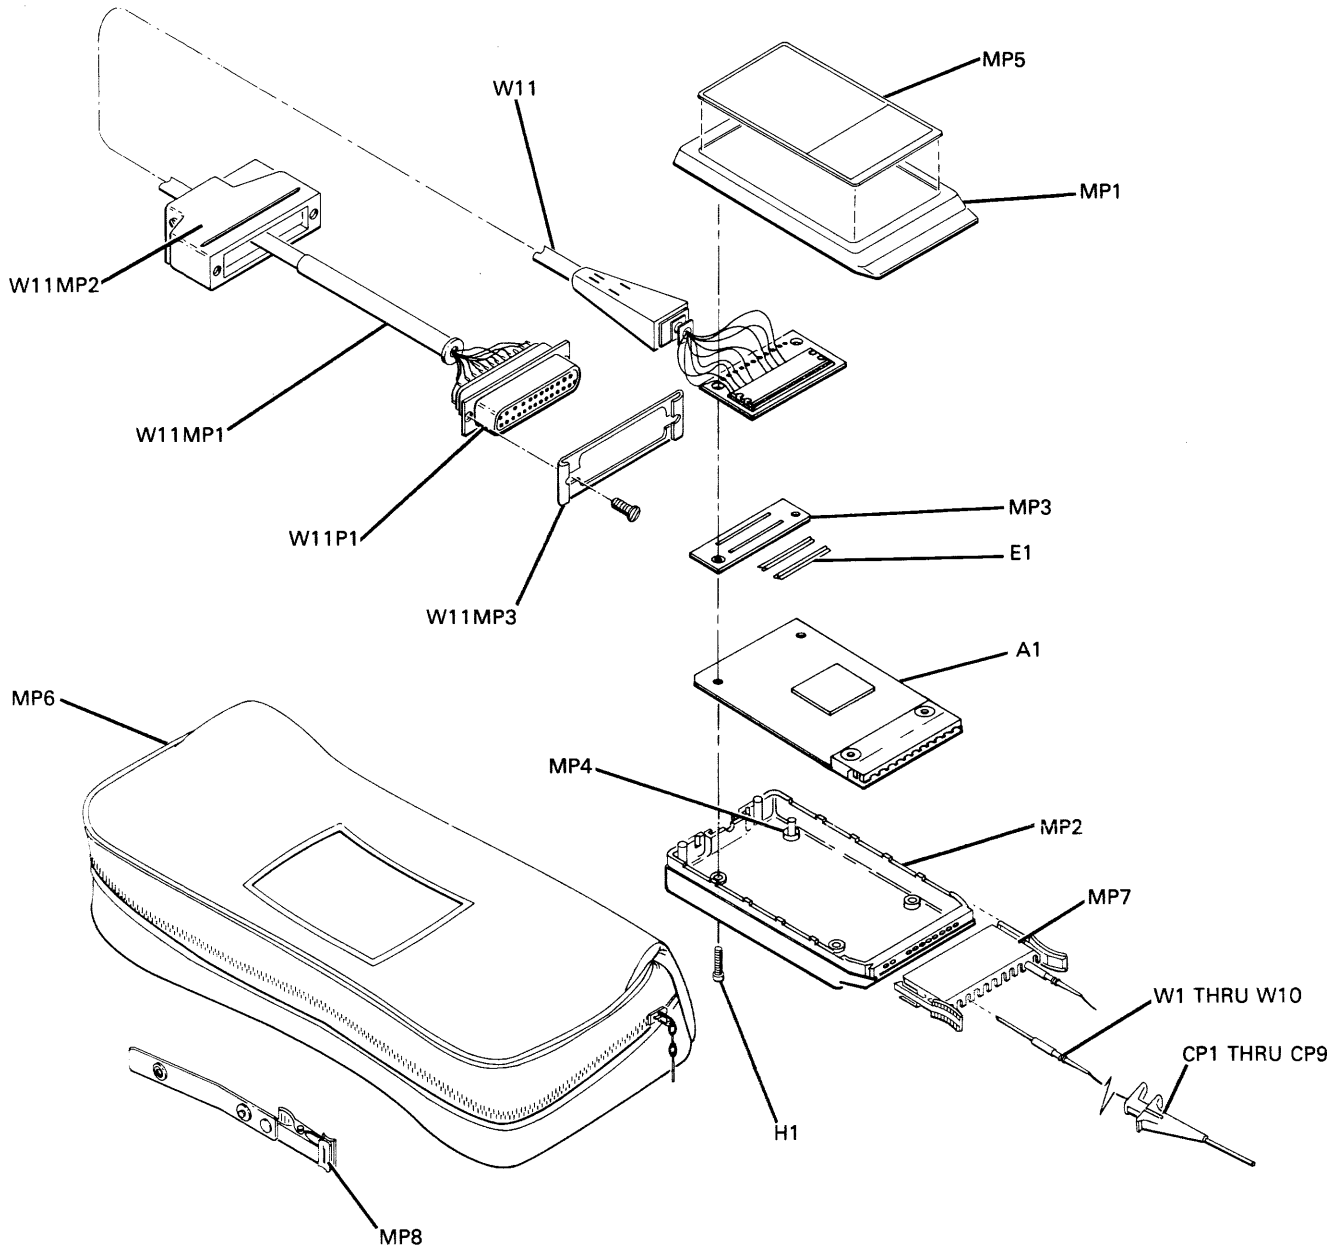

Figure 2. Model 10248C Parts Identification
19. **REPLACEABLE PARTS.** Table 2 lists replaceable parts and the HP part number of each item. Table 3 lists the names and addresses of the manufacturers of the parts. Figure 2 shows the location of each part.